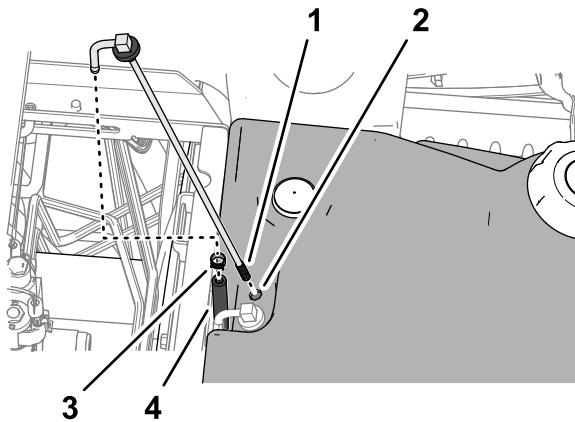

Figure 132
3. Remove the clamp that secures the hose to the fuel pick-up tube (Figure 132).
5. Clean the screen at the end of the fuel pick-up tube (Figure 132).